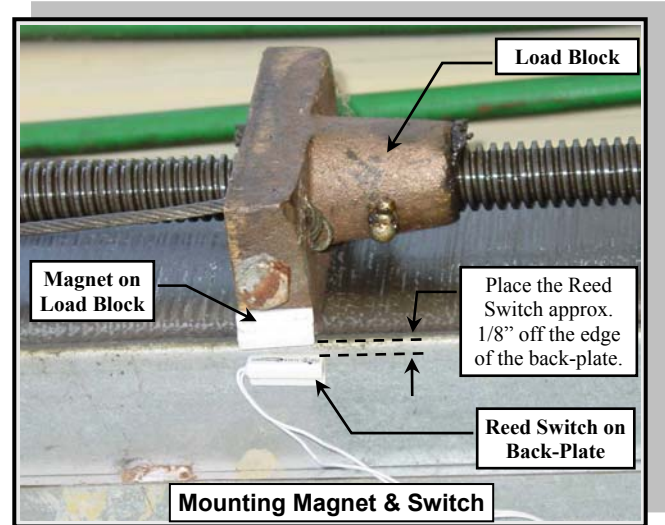

FIGURE 9
2. Attach the magnet to the load block using the adhesive tape. **Refer to Figure 9.**